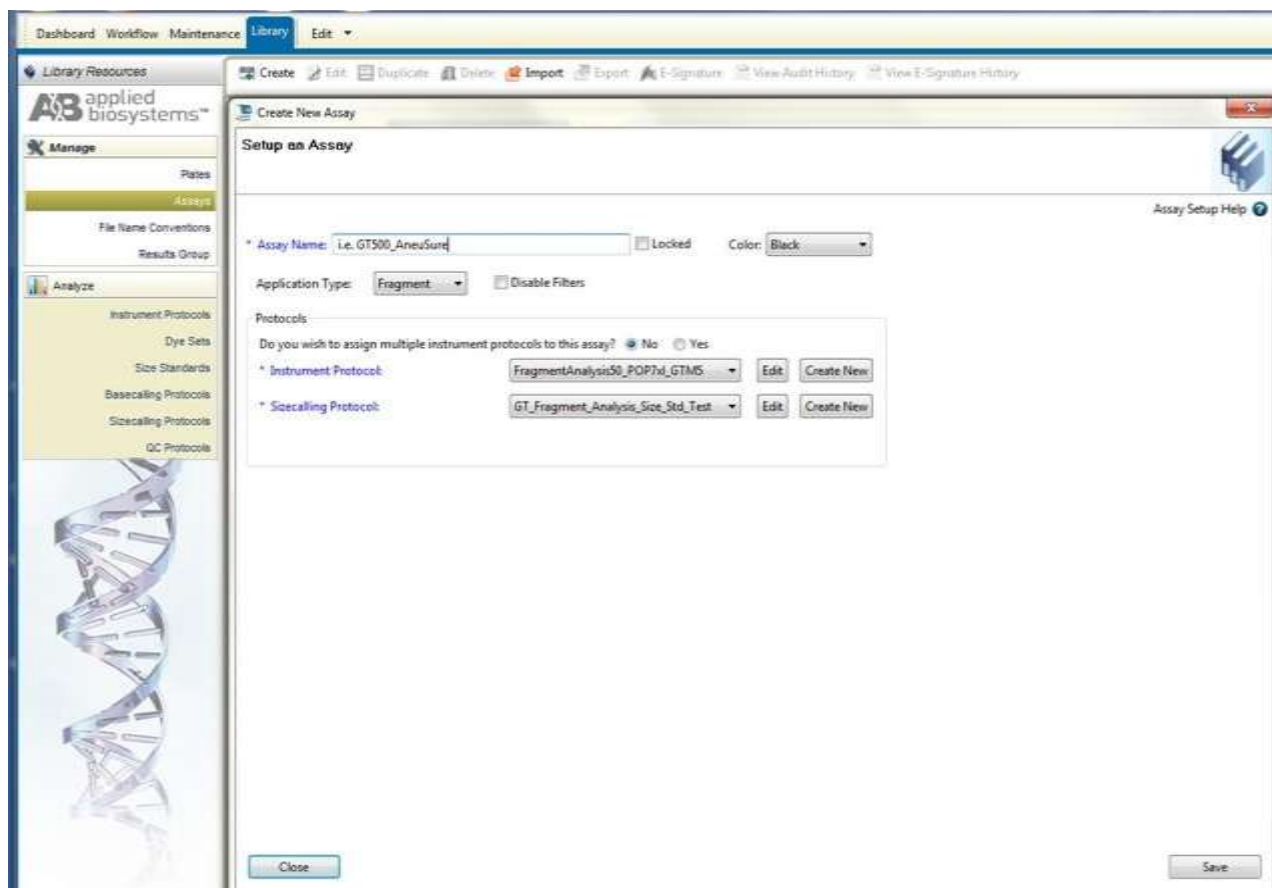

Figure 7. Screenshot for the “Create New Assay” window on Applied Biosystems 3500 Data Collection software
- c) Select “Create” (Figure 7)
- d) In the *Create New Assay* window, as shown in Figure 7, choose the *Instrument Protocol* created in Step 3.1.1 and the *QC Protocol* created in Step 3.1.3